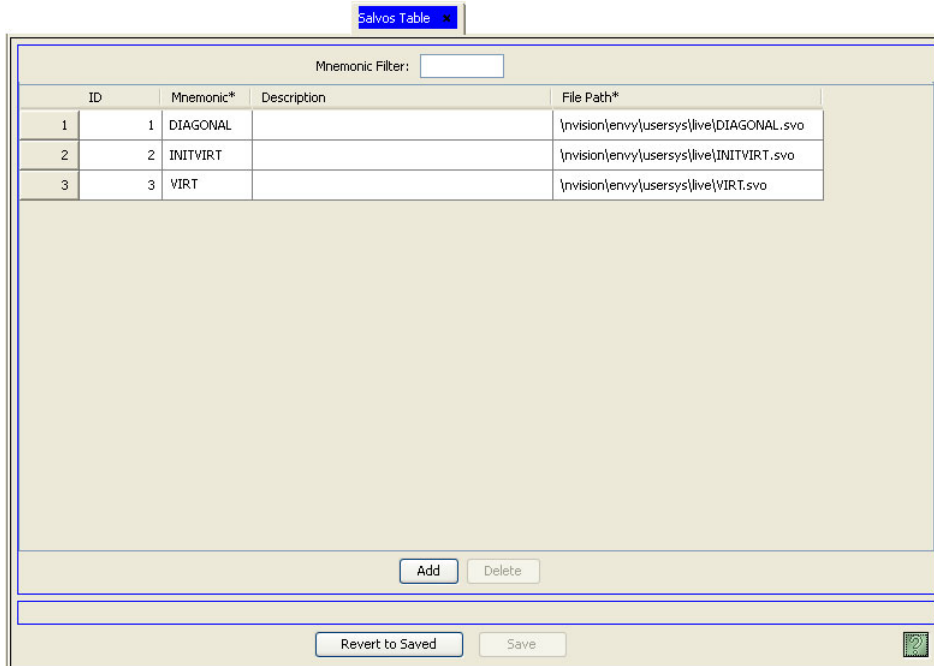

Figure 15-10. Salvos Table
1 From the Navigation area, select the ‘Views’ pane and then ‘Salvos’. The ‘Salvos’ table appears, as shown in Figure 15-10.
- 4 In the 'Salvos' table (See Figure 15-10), click in the 'Description' field to activate it and enter a new description.